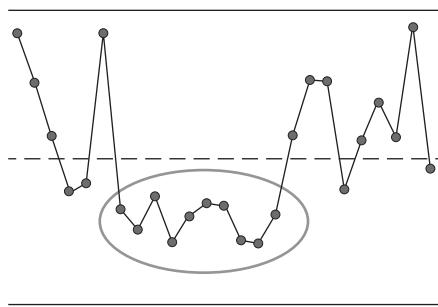

Figure 9.10 Control chart showing shift in the process.
- *Shift.* Eight or more points in a row on the same side of the centerline indicate a shift in the process (Figure 9.10). Find out what was different about the process during the shift.